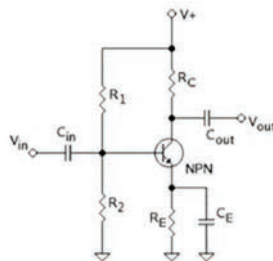

Figure 6.42 Ch 6: No. 12, self-test
12. For the BJT amplifier of Figure 6.42, determine the Q-point, input and output resistance R_{in} and R_{out} , AC signal voltage at the base V_b , and voltage gain A_V both with and without the bypass capacitor C_E and load R_L , if R_1 is 10 k Ω , R_2 is 3 k Ω , R_C is 1 k Ω , R_E is 1 k Ω , R_S is 80 Ω , R_L is 40 k Ω , V_{CC} is 10 V, β_{DC} is 75, V_{in} is 6 mV, β_{DC} is 75, and h_{fe} is 150. (Assuming a silicon BJT.)